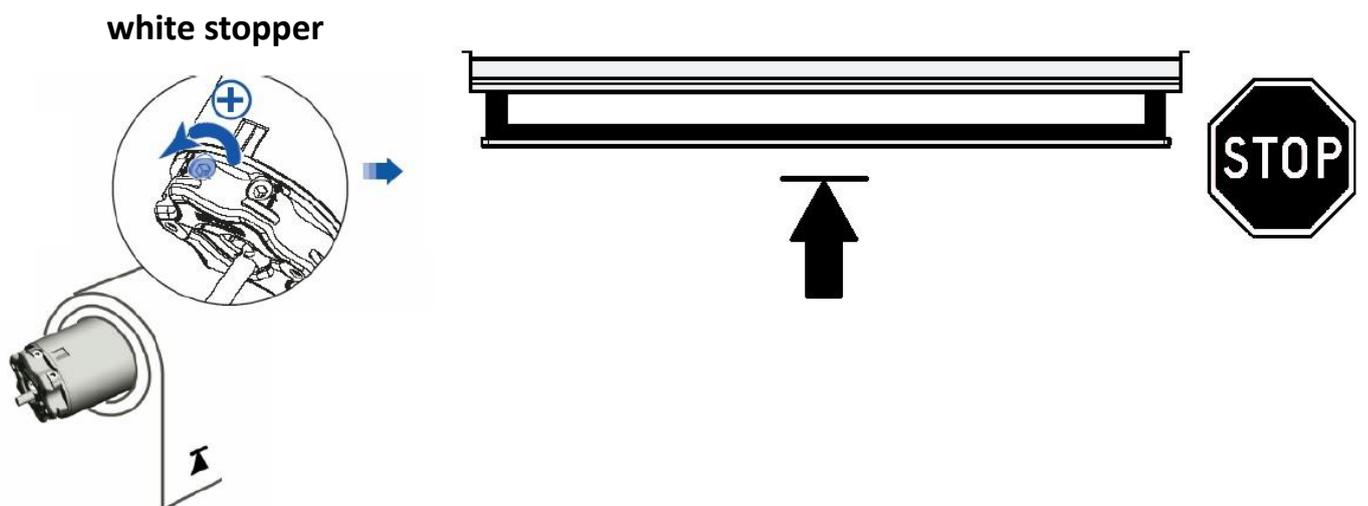

Fig.10
7. The screen as delivered has its end positions set according to the order. If the screen's position descends too low or not low enough, its end positions can be adjusted using the supplied key (fig.10).